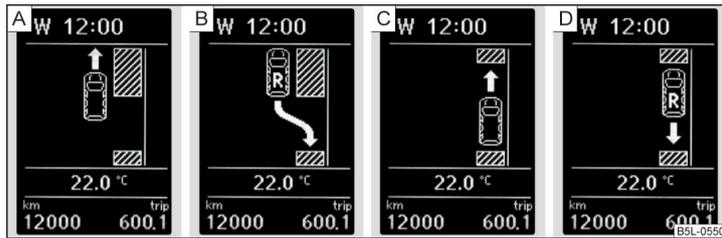

Fig. 142 Display
If the system has recognised a suitable parking space, this parking space is shown in the display » Fig. 142 - **A**.
- Continue driving forwards until the display appears » Fig. 142 - **B**.
- If the forward arrow flashes » Fig. 142 - **C**, then shift to 1st gear or move the selector lever in position **D**.
- If the backwards arrow is flashing in the display » Fig. 142 - **D**, select reverse gear again or move the selector lever into position **R**.